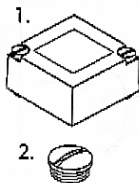

Fig 3. Remove screw and cap
- 1) Remove the screw and the cap, see **Fig 3**.